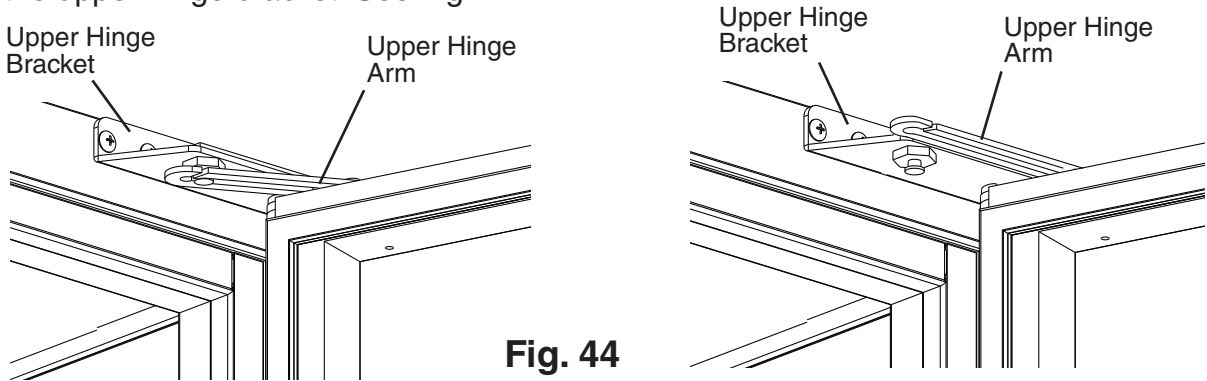

Fig. 44
- 7) Open the upper door. Using a flat head screwdriver, unhinge the upper hinge arm from the upper hinge bracket. See Fig. 44.